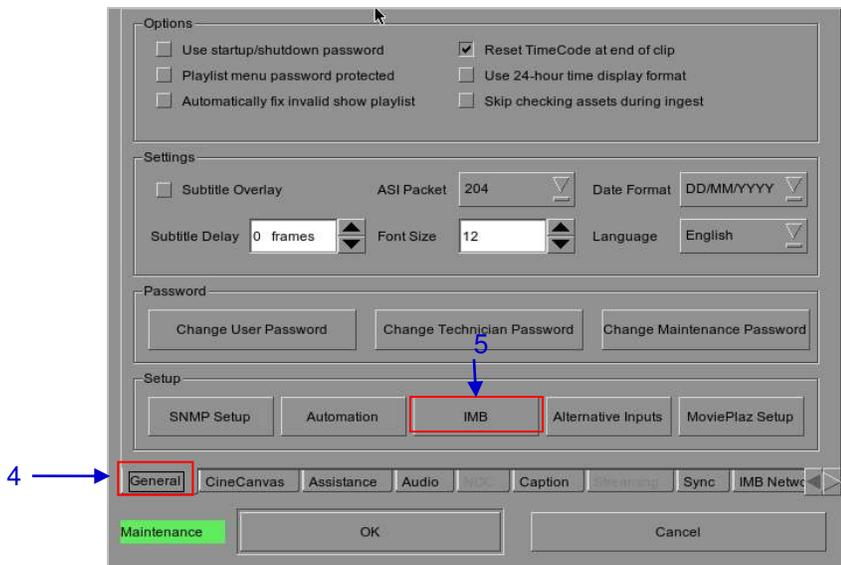

Figure 18 General [Configuration].
5. Click **[IMB]** to access the IMB Status dialog box (as seen in Figure 18)